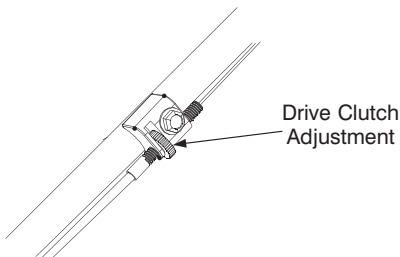

Figure 12
- To adjust, rotate the adjustment wheel with your fingers, see Figure 12. Turn the wheel to the left to tighten the drive cable. Turn the wheel to the right to loosen the drive cable.